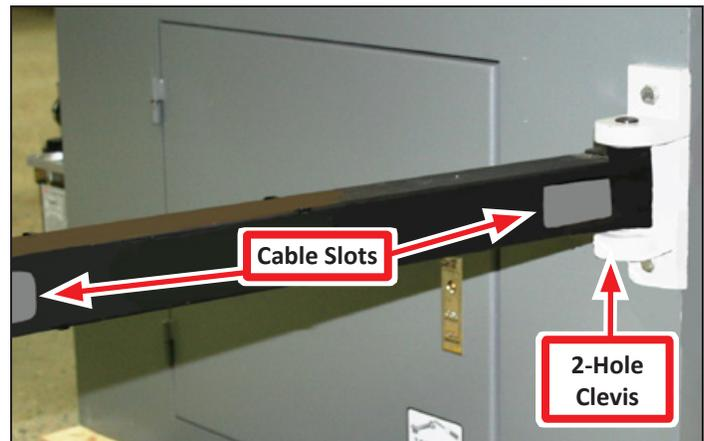

Figure 2.11
3. Use two sets of M8 x 30 mm socket head cap screws, M8 hex nuts, M8 flat washers, and M8 lock washers to attach the mounting clevis to the machine stand (see **Figure 2.11**). Make sure that the cable slots on the square tube arm are facing as shown in **Figure 2.11**.